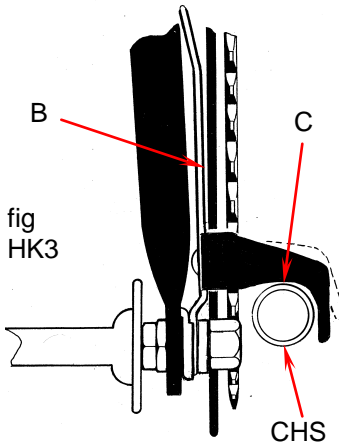

fig HK3
2. The hook must not be bent wrong (fig HK3): if it is bent rear CHS,